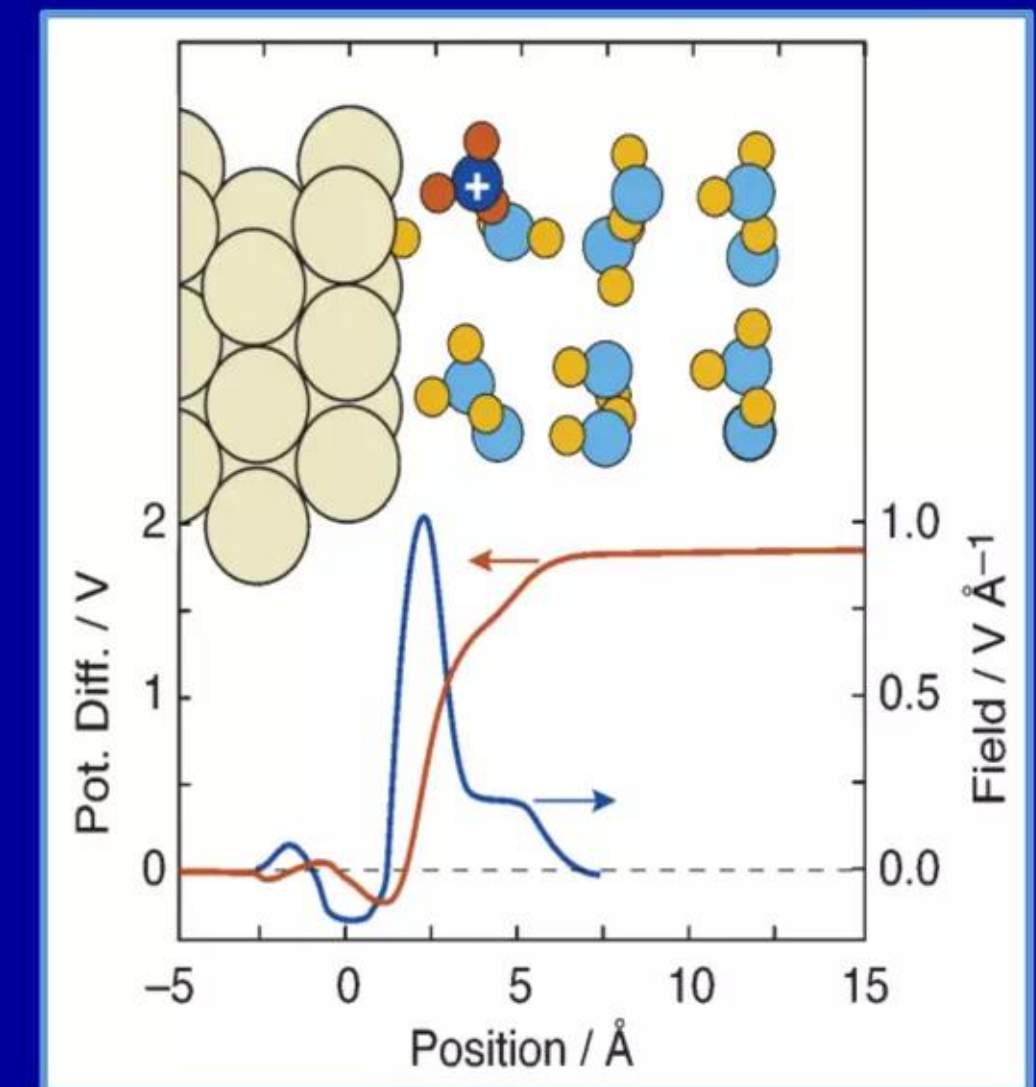

Fig. 2. DFT/molecular dynamics simulation of a charged Pt(111) slab with 3 water layers
"Density functional theory (DFT) model of Fig. 2, for three water layers and one hydronium ion (dark blue/orange) at a Pt(111) surface, focuses on the adsorbed or near-surface layer. The water molecules alter their orientation in response to the hydronium ion. The red curve shows the potential profile, and the blue curve is the field profile obtained by differentiating the potential profile. **The field profile varies from zero in the metal, to a maximum of 1 V/Å near the surface, and to zero into the solution phase.** There is an appreciably wide region where the field exceeds 0.3~V/Å, at which water ionization is possible, according to work in our laboratory. Comparison of this experimental result with the computational result shows that ionization would be expected to occur over the range where the field exceeds the ionization threshold, from 1.5 to 3.5 V/Å from the surface."